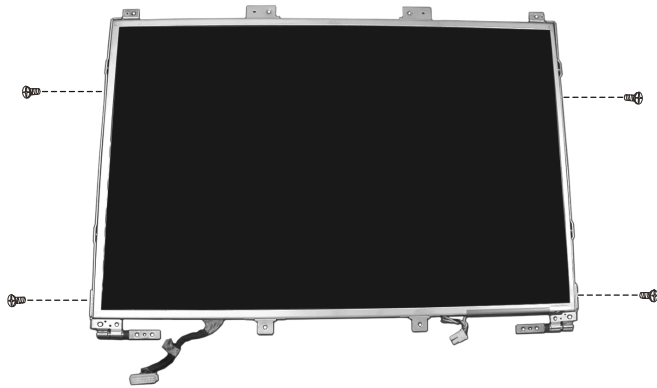

Figure 2-22 Remove the four screws
5. Remove the four screws that secure the LCD brackets. (Figure 2-22)